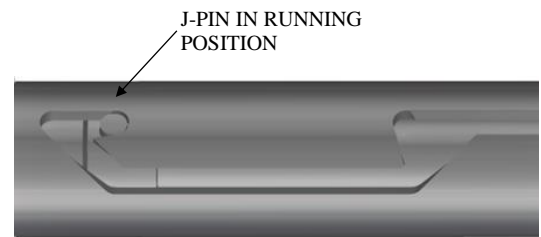

Fig. 6
L-2.15) Position J-pin of J-pin bottom sub (23) in running position in J-slot of J-body (20) (Fig. 6).